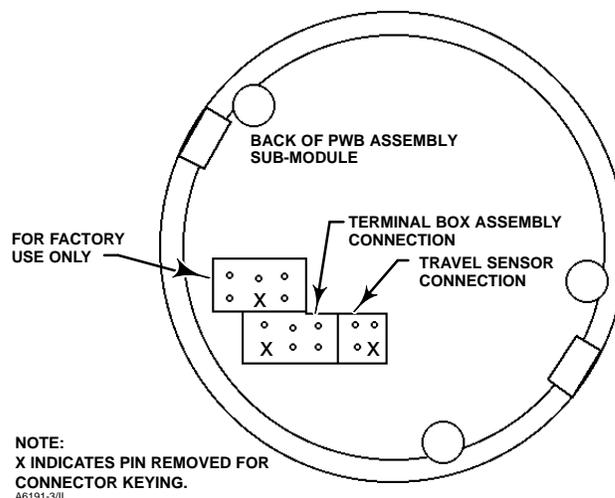

Figure 8-1. DVC5000f Series Digital Valve Controller Connector Locations
2. Connect the terminal box connector to the pwb assembly (key 50), shown in figure 8-1. Orientation of the connector is required.
3. Connect the travel sensor connector to the pwb assembly (key 50), shown in figure 8-1. Orientation of the connector is required.
4. Insert the module base (key 2) into the housing (key 1).
5. Install four screws (key 38) in the master module into the housing. If not already installed, press four retaining rings (key 154) into the module base. Evenly tighten the screws in a crisscross pattern to a final torque of 138 lbf•in (16 N•m).
6. Insert the cover hinge tabs into the module base. Swing the cover down into position and tighten the screw (key 41).
7. If not already installed, screw the vent (key 52) into the vent connection on the back of the housing.
8. If not already installed, apply sealant (key 64) to the pipe plug (key 61) and install it in the output connection on the back of the housing.
9. For sliding-stem applications only, install the protective shield (key 102) onto the side of the replacement module base assembly.